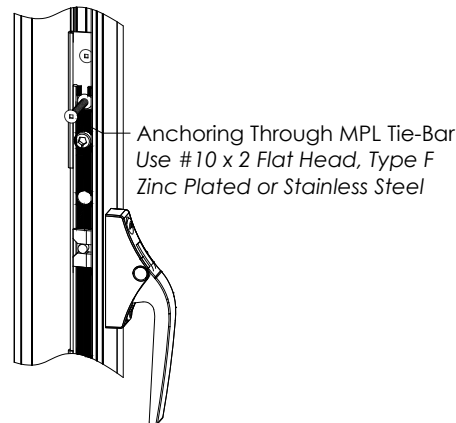

FIG. 4
- If the INSERT VENT is equipped with MPL Tire Bar, #10 x 2" Flat Head TF fasteners must be used in this location. **See FIG. 4**